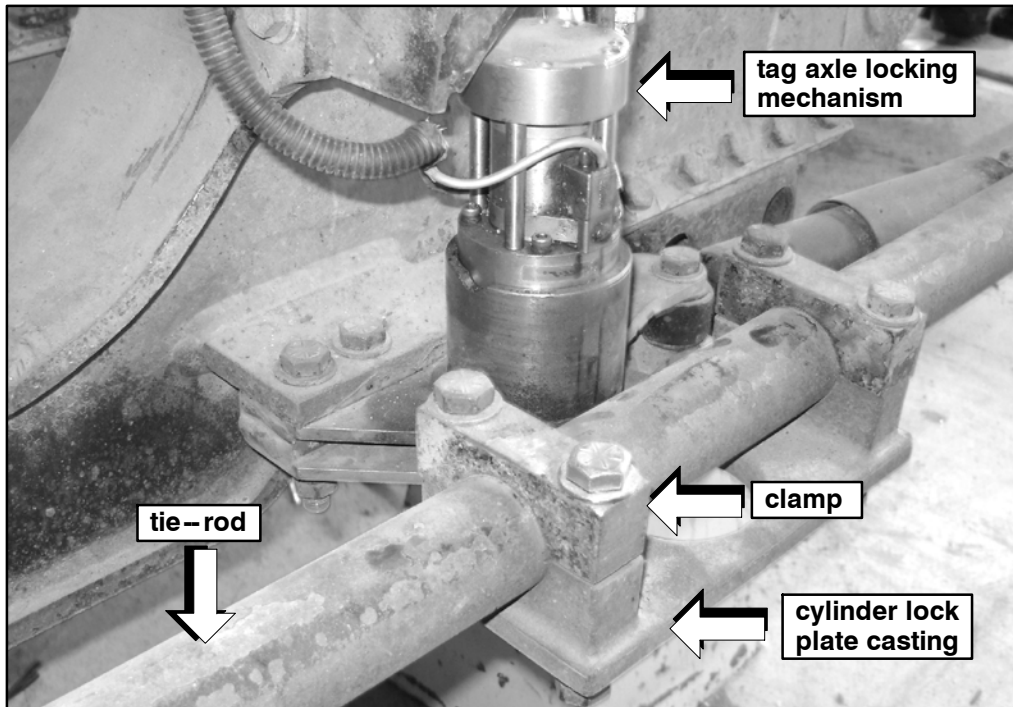

Figure 2.
5. Locate the tag axle locking mechanism (refer to Figure 2).
6. Using a clean cloth, remove any dirt or grease from the tie rod and clamps (refer to Figure 2).
9. Loosen the cylinder lock plate casting capscrews (refer to Figure 2), to slide out the cylinder lock plate casting. Lower the cylinder lock plate casting one-half (1/2) the diameter of the tie rod to access the bottom of the tie rod and the lock casting (refer to Figure 4).